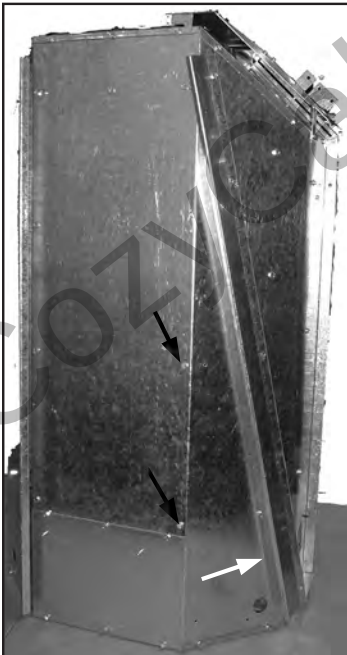

Figure 52: Move Back Stand-Off.
2. Remove the two (2) bottom screws securing the stand-off (see Figure 52) and swing it out of the way.
3. Install the two (2) grommets; place a 8-32 x $\frac{3}{4}$ " bolt through each grommet, then screw the bolt to the back cover using a $\frac{1}{4}$ " socket.